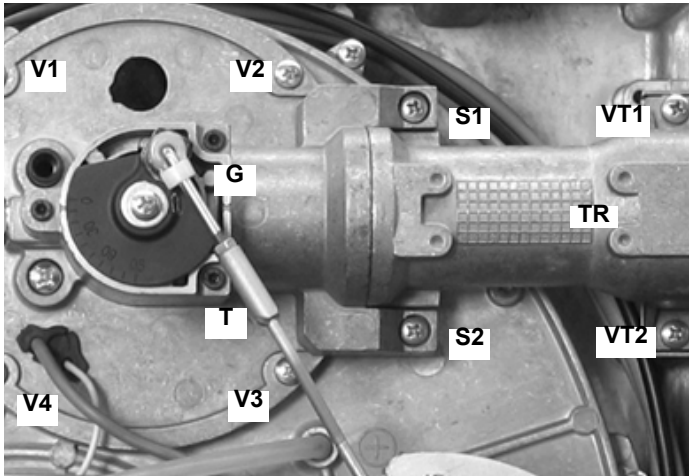
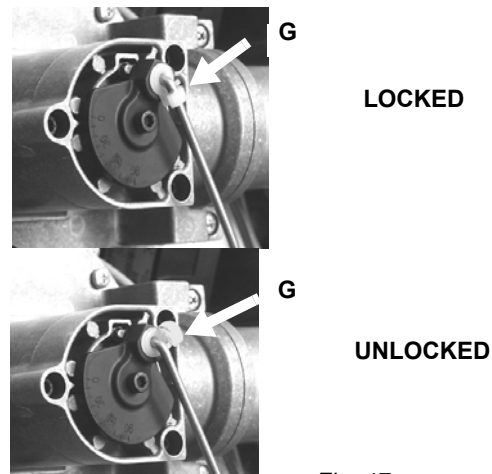
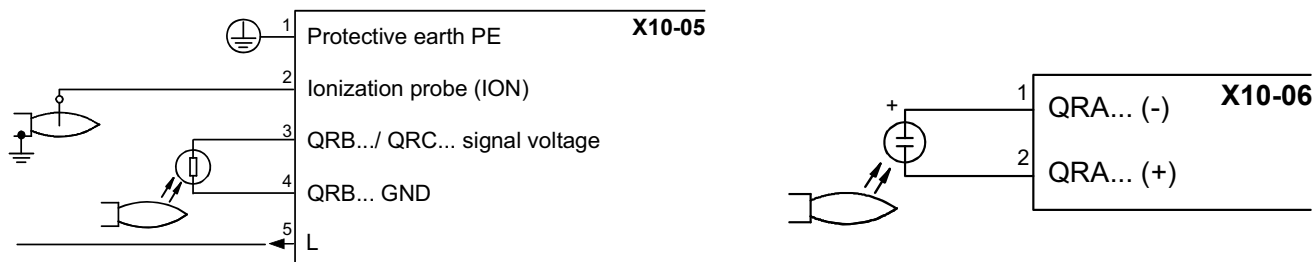

Fig. 46
Fig. 47
Fig. 51
- Check the ignition and detection electrodes, clean and adjust if necessary (see Fig. 47). In case of doubtr, check the detection current according to the schemes in Fig. 51.
- 1 By means of the plastic hook **G**, unlock the rod **T** (Fig. 46) which drives the butterfly valve (Fig. 46 and Fig. 47), to disconnect it from its seat.
- 2 Remove the screws **V1**, **V2**, **V3**, **V4** and the screws **S1** and **S2** (Fig. 46).